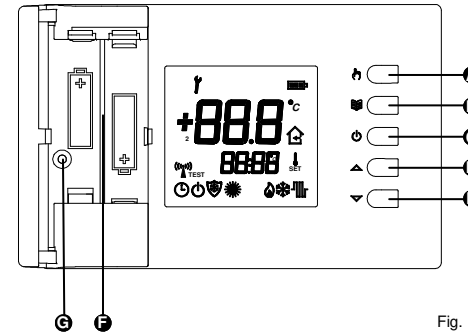

Fig. 1
2. Correctly insert the batteries (respecting polarity) in the battery compartment (Ⓛ of Fig. 1), do not use low charged batteries, use alkaline ones.